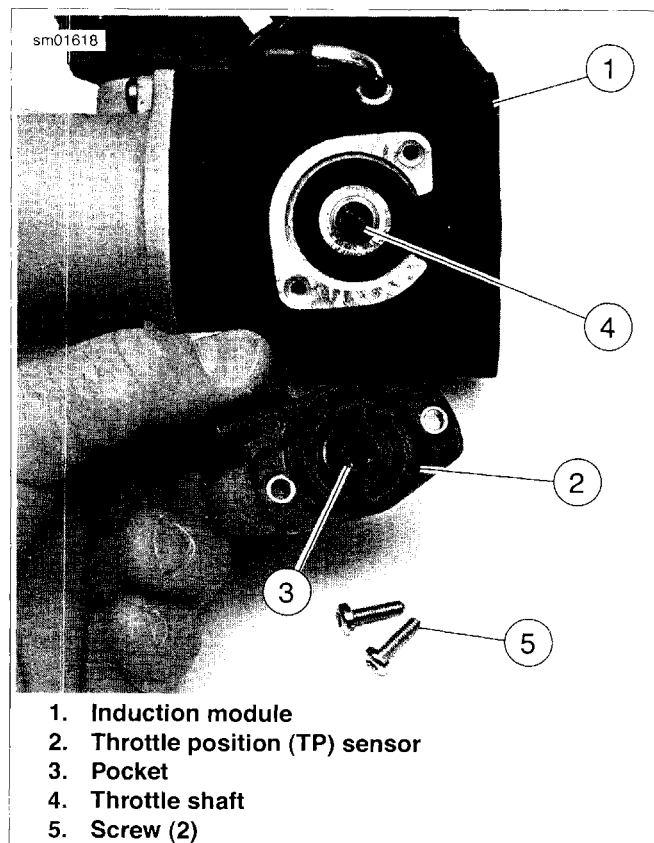

Figure 4-28. Throttle Position (TP) Sensor Installation (XL Models)
1. See Figure 4-28. Fit pocket (3) of TP sensor (2) over throttle shaft (4). Orient TP sensor correctly and line up mounting holes in sensor with holes in body of induction module (1).
2. Make sure TP sensor body is flush against mounting boss on induction module body. Install two screws (5) to fasten sensor to induction module. Tighten screws to 35 in-lbs (4.0 Nm).